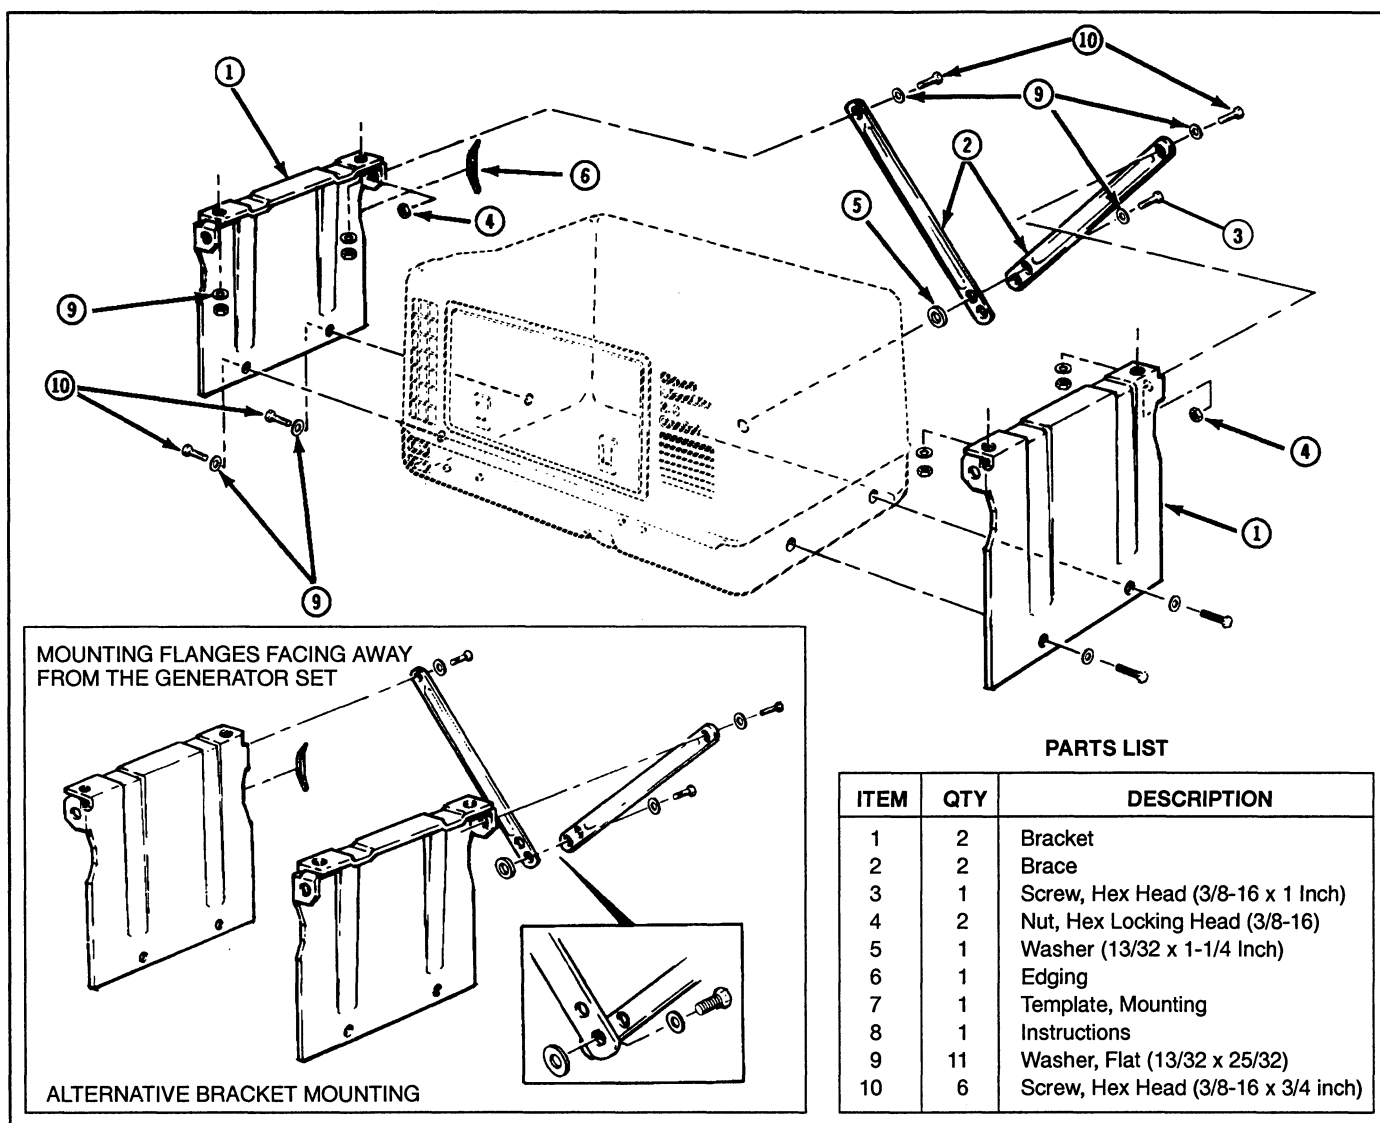
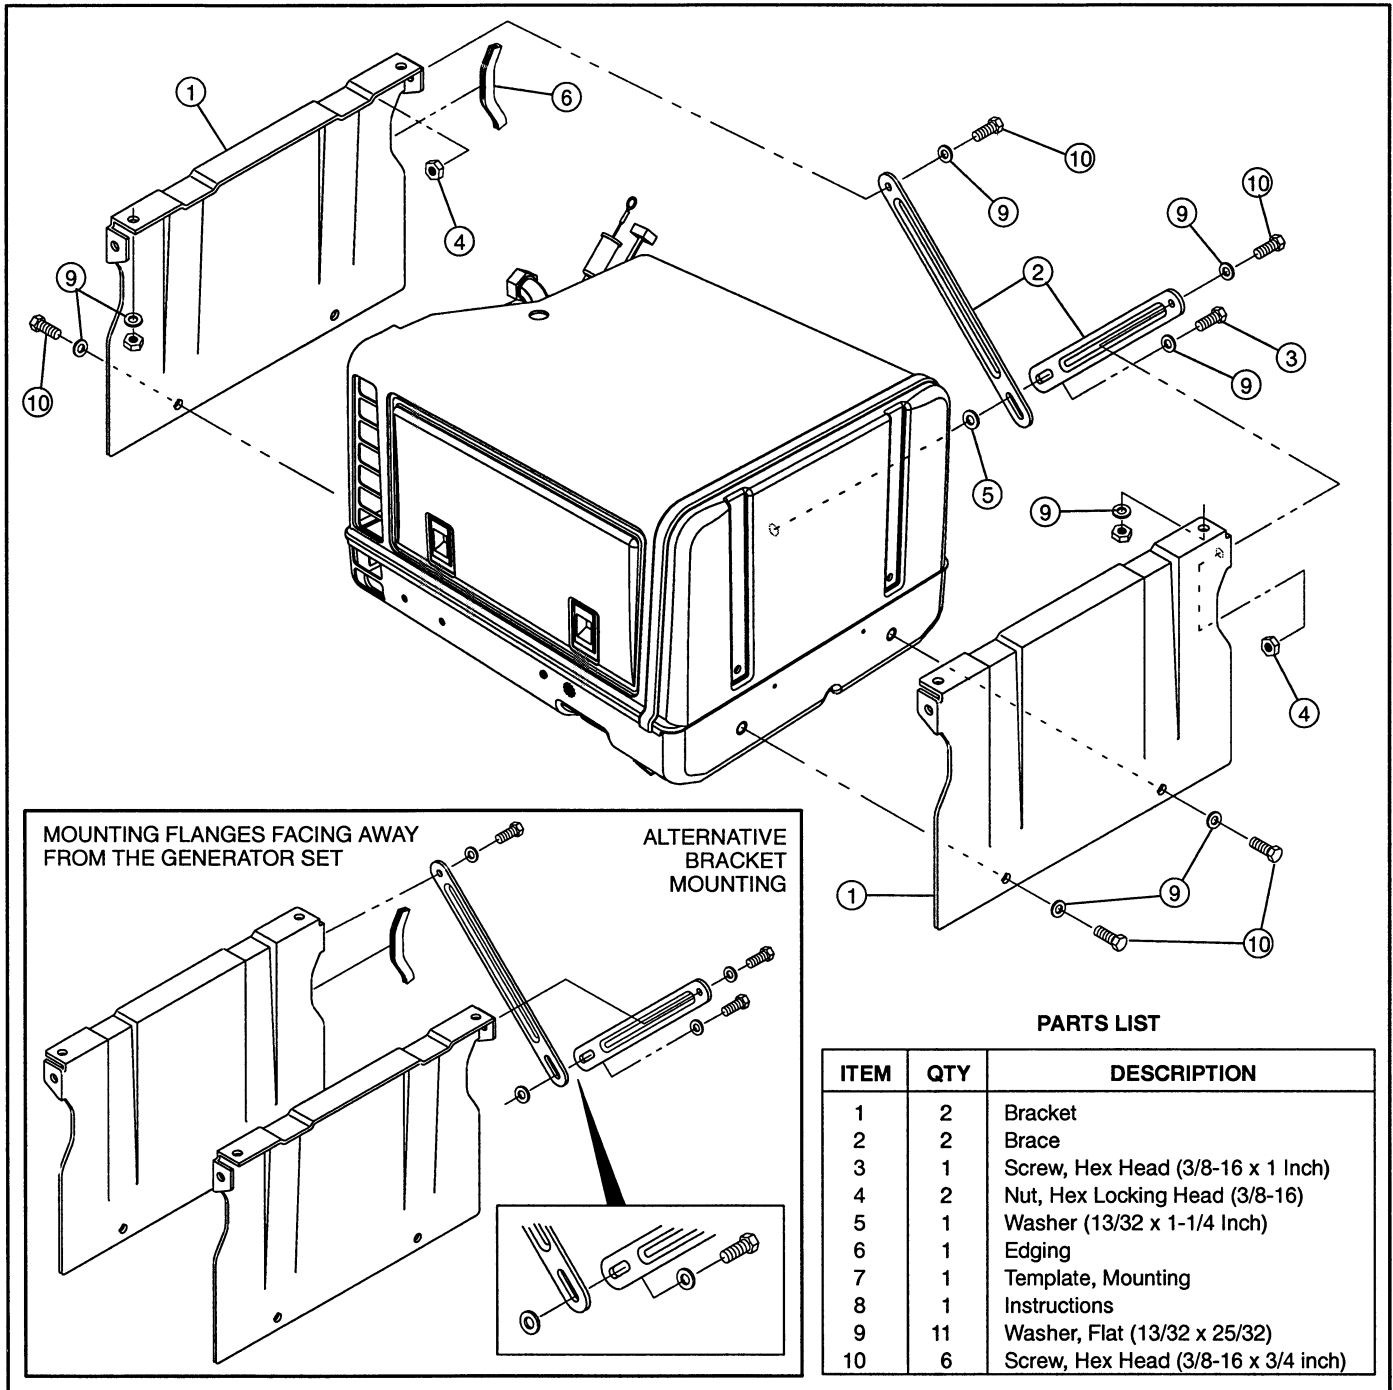

FIGURE 1. KV UNDER-FLOOR HOUSING (KIT 403-2689)
FIGURE 2. KVD UNDER-FLOOR HOUSING (KIT 541-0661)
With an under-floor mounting kit, special support brackets are used to suspend the generator set from the underside of the coach (for KV generator sets, see Figure 1; for KVD generator sets, see Figure 2). The support brackets are to be fastened to support members that are built into the coach framework. The generator set is mounted near the exterior of the
During installation, refer to Figure 1 or Figure 2 and carefully follow these steps.
6. Assemble the support braces (Item 2) to the support brackets (Item 1) by aligning the single mounting hole end of the brace with the rear support bracket mounting hole (refer to Figure 1 or Figure 2). Face the support brace strengthening rib away from the generator set. Install a 3/8-16 x 3/4 inch bolt (Item 10) and hardened flat washer (Item 9) through the support brace and support bracket. Secure the braces to the brackets using a 3/8 inch hex nut (Item 4) and tighten finger tight.
7. Bolt the support brackets to the vehicle support structure with 3/8 inch bolts, grade 5 or better (required to allow adequate mounting torque) and the enclosed hardened flat washers (Item 9). See Figure 1 or Figure 2. Torque the mounting bolts to 35 ft-lbs (47 N•m). (Support bracket mounting bolts and nuts are not included due to variations in vehicle support structure designs.)
8. **For kit 403–2689:** When the support bracket flanges are mounted facing toward the generator set, position support braces by aligning the upper hole in each brace. When the support brackets are installed with the mounting flanges facing away from the generator set, align the bottom set of holes. See Figure 1.
ign the bottom of the slot in each brace. See Figure 2.
10. Install protective edging (Item 6) on the support bracket where electrical and fuel connections will exit the generator set. See Figure 1 or Figure 2.
14. Place the large (13/32 x 1-1/4 inch) washer (Item 5) between the back of the generator set base and the support braces. Secure the support braces to the generator set using the 3/8-16 x 1 inch bolt (Item 3) and a hardened flat washer (Item 9). Torque the brace mounting bolt to 35 ft-lbs (47 N•m). See Figure 1 or Figure 2.